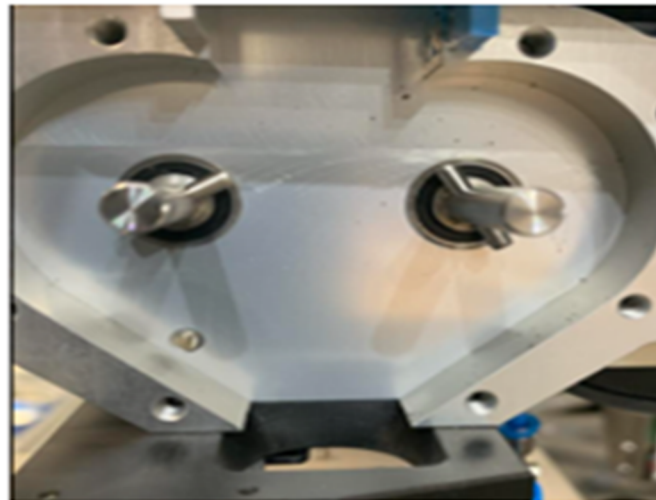

Figure 5-9 The dosing gears housing
- 5- Make sure to vacuum all dust from all the surfaces and hole in the gear housing as shown in Figure 5-9.
- 6- Replace the dosing gears, and put back the front cover by screwing the four (4) screws to their rightful places.